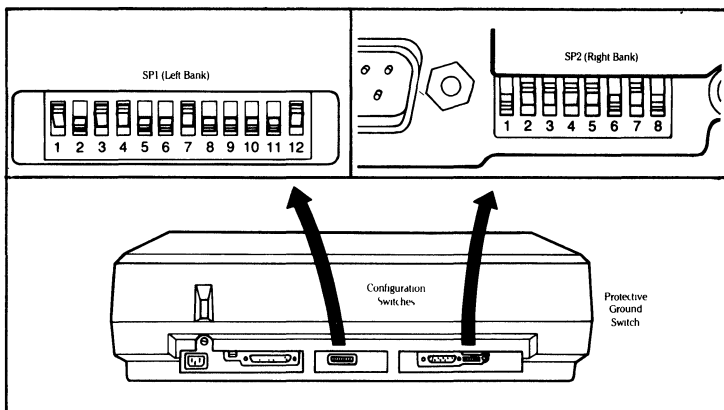

Figure 10-6 ■ LQP02 Configuration Switches
*Remaining Left Bank Switches* Table 10-3 names the remaining left bank switches and explains their functions. It also explains the meaning of up and down position settings. Refer to Figure 10-6.
The right bank contains eight switches (SP2-1 through SP2-8). Factory settings are indicated by daggers(†). See Figure 10-6.
When a modem is installed in your system, the up position of this switch connects the printer frame to the “protective ground” line (I/O connector pin 1). See Figure 10-6.